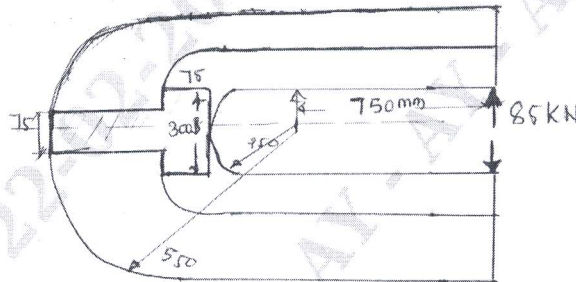

Fig. Q1 (b) (07 Marks)
- b. For following T section shown in Fig. Q1 (b), determine the maximum stresses for inner and outer fibre of the member.